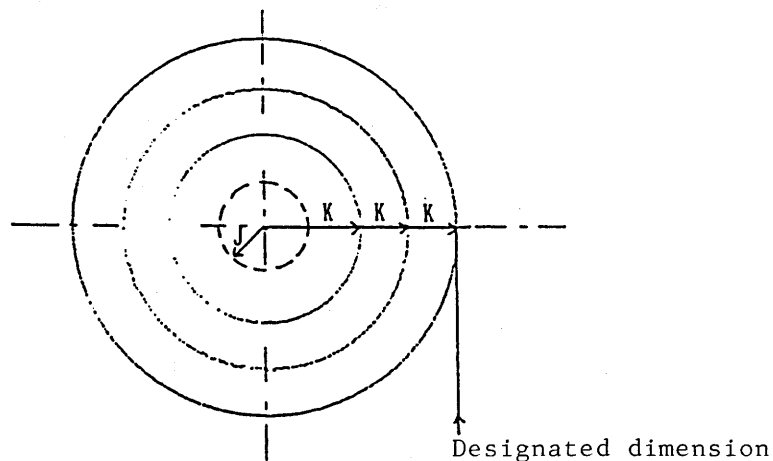

Fig. 7.1 : K-**
(3) Precautions
- (a) When the cutting width (K) is ⊖, no finish cutting is done in the spindle and sub-spindle (side face) directions. (Fig. 7.1)